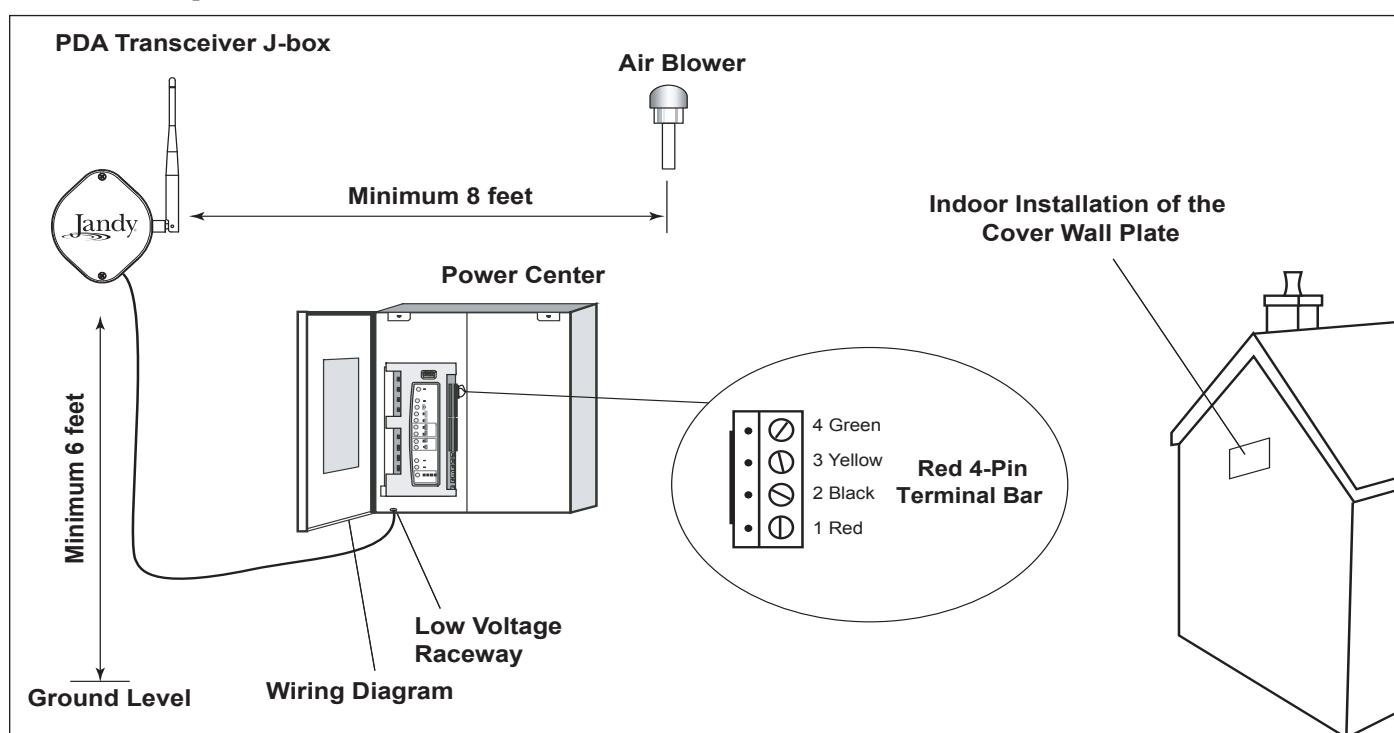

Figure 1. Power Center and Cover Mounting Plate
6. As shown in Figure 1, mount the outdoor transceiver J-box at least 6 feet above the ground and at least 8 feet from an air blower.